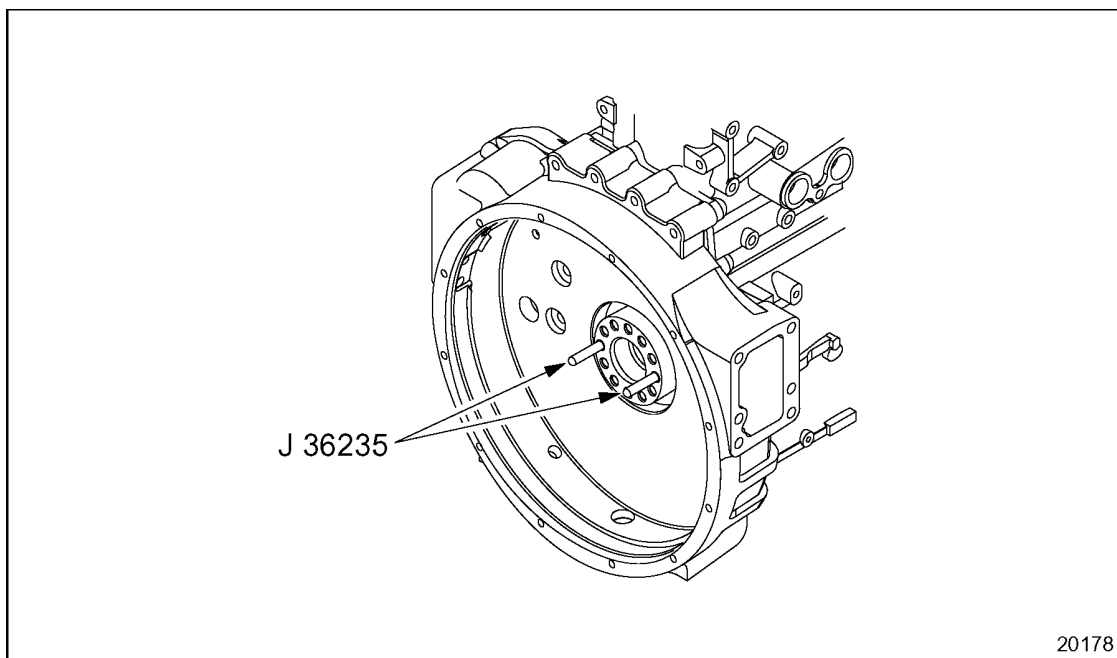

Figure 1-210 Flywheel Guide Studs
6. Install two flywheel guide studs, J 36235, through the flywheel and into the crankshaft at the 3 and 9 o'clock positions. See Figure 1-210.